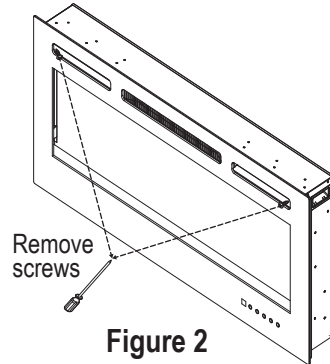

Figure 2
- Carefully flip the unit over and lay it face-up. Remove the screws that are on both sides of the front glass panel. [Figure 2] Save the screws for reinstalling the glass panel.